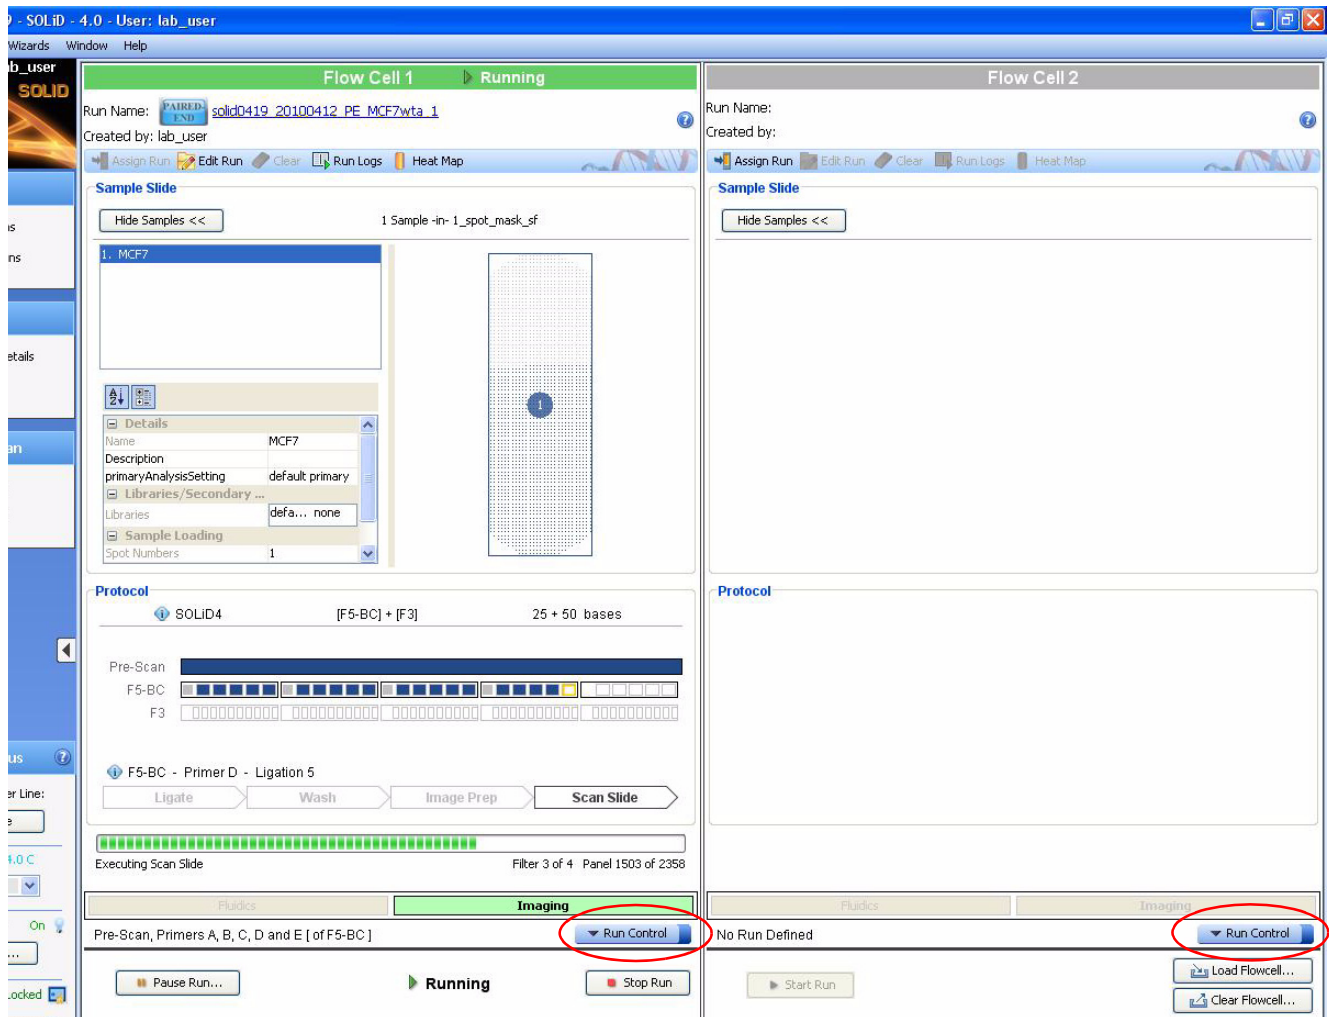

Figure 58 Click **Run Control** to display the Run Control menu for that flowcell.
1. Click **Run Control** to display the Run Control menu (see Figure 58).